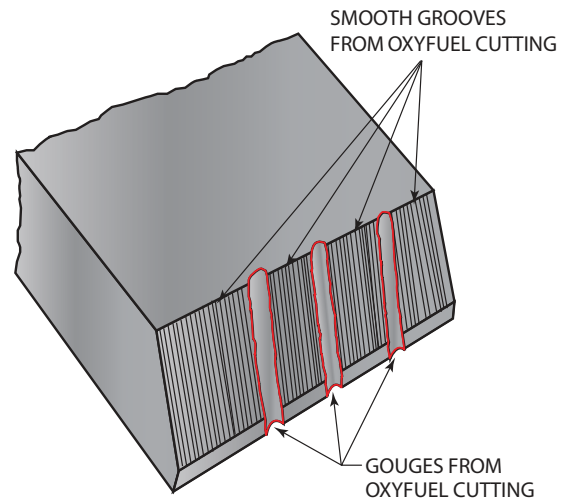

FIGURE 30-9 Remove gouges along the surface of the joint before welding. © Cengage Learning 2012
- Improper edge preparation—Any notches or gouges in the edge of the weld joint must be removed. For example, if a flame-cut plate has notches along the cut, they could result in a lack of fusion in each notch, Figure 30-9.